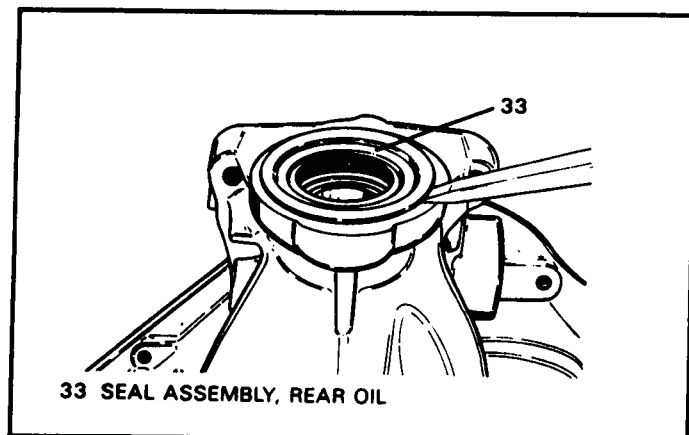

Figure 62
14. Remove the output shaft seal from the case as shown in Figure 62, using care so as not to do any damage to the seal bore in the case.